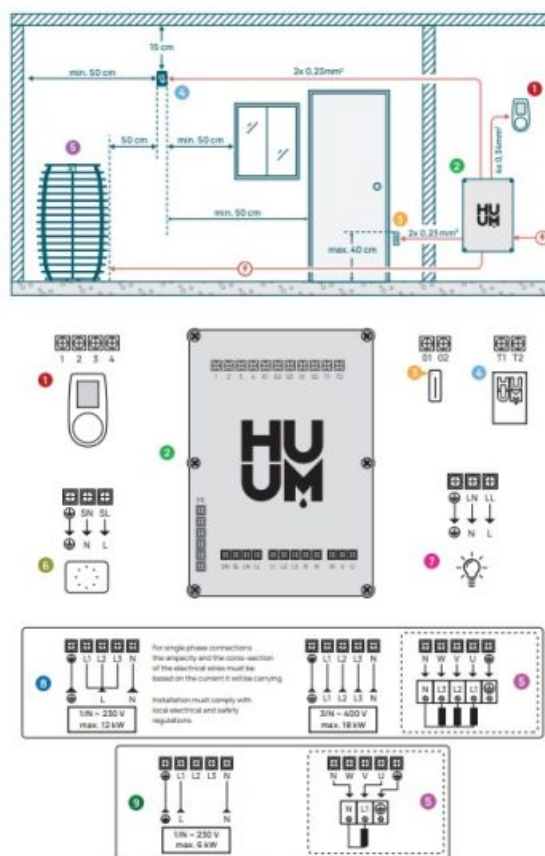

Figure 1. Electrical connections of the heater.
ATTENTION! Determine the location of the parts of the control system in the room, then measure the lengths of the cables needed to connect them (see figure 1).
- Connect the cables of the UKU control panel, temperature sensor, and door switch through a cable glands to the enclosure and main module (see figure 1.).
- Connect SL (phase), SN (neutral) to the outputs of the steamer. To connect, see the figure 1.
- It is possible to connect a lamp or a ventilation device to the outputs LL(phase) LN (neutral) of the main module. To connect, see the figure 1.